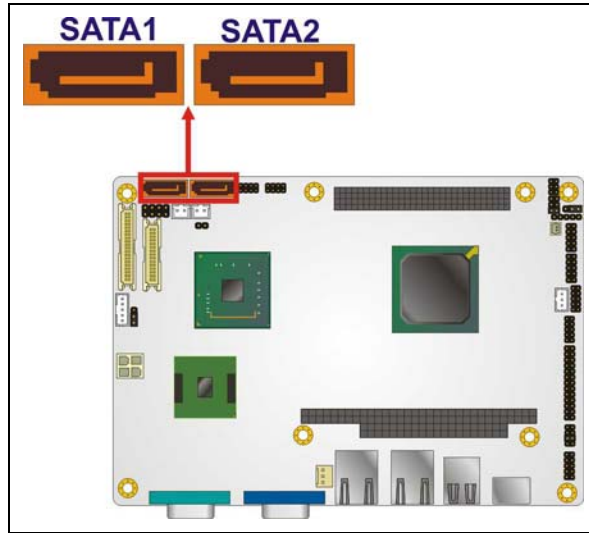

Figure 3-17: SATA Drive Connector Locations
- CN Location:** See **Figure 3-17**